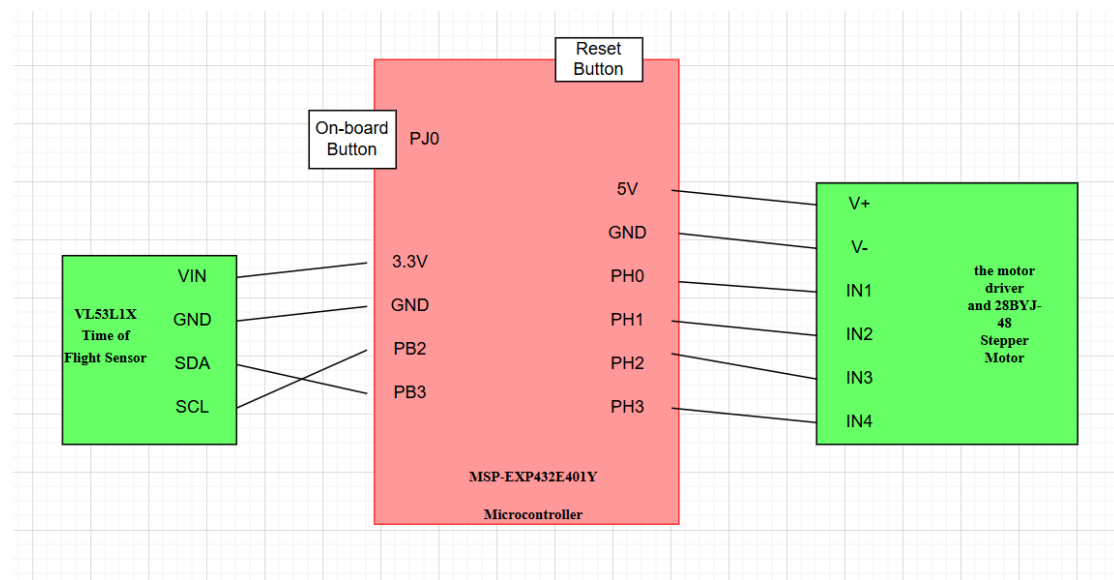

Figure 13: the circuit schematic
1. Build the circuit based on the circuit schematic diagram which is Figure 13